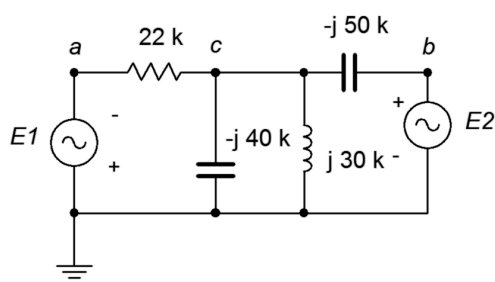

Figure 6.7
13. Given the circuit in Figure 6.7, use mesh analysis to determine v_c . $E1 = 10\angle -180^\circ$, $E2 = 25\angle 0^\circ$.
14. Use mesh analysis to find the current through the 22 kΩ resistor in the circuit of Figure 6.7. $E1 = 24\angle 0^\circ$, $E2 = 36\angle 0^\circ$.
51. Use nodal analysis to find v_{cb} in the circuit of Figure 6.7. $E_1 = 10\angle -180^\circ$, $E_2 = 25\angle 0^\circ$.